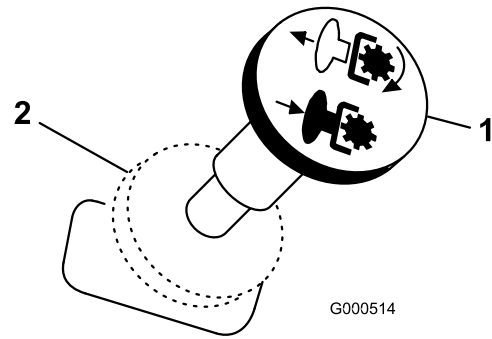

Figure 13
- Pull out on the power take off (PTO) switch to engage it (Figure 13).
To disengage, push the PTO switch to the **off** position (Figure 13).